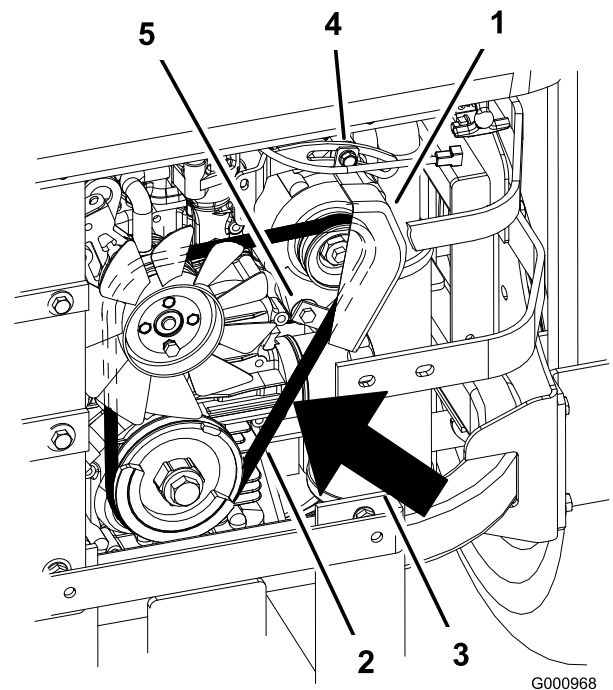

Figure 75
2. Adjust the alternator to the outside until there is 7 to 9 mm (1/4 to 11/32 inch) deflection in the belt between the engine and the alternator pulleys with 10 kgf (22.1 lb of force) (Figure 75).
5. If the deflection is correct, tighten the bottom and upper bolt (Figure 75).